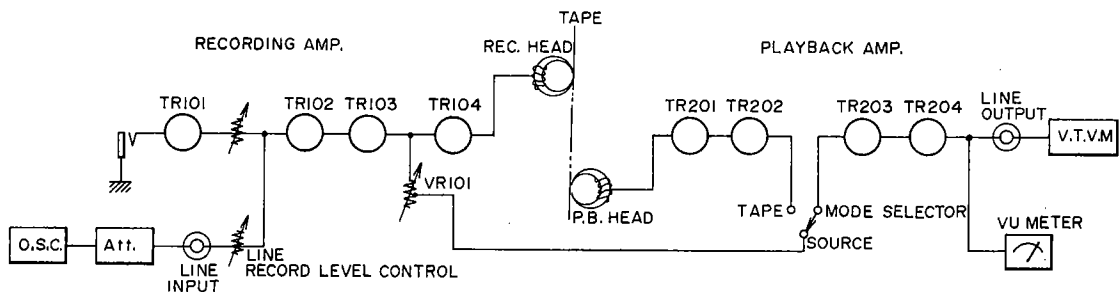

Fig. 2
- (b) Connect Audio Oscillator and Attenuator to Line-Input as shown in Fig. 2.